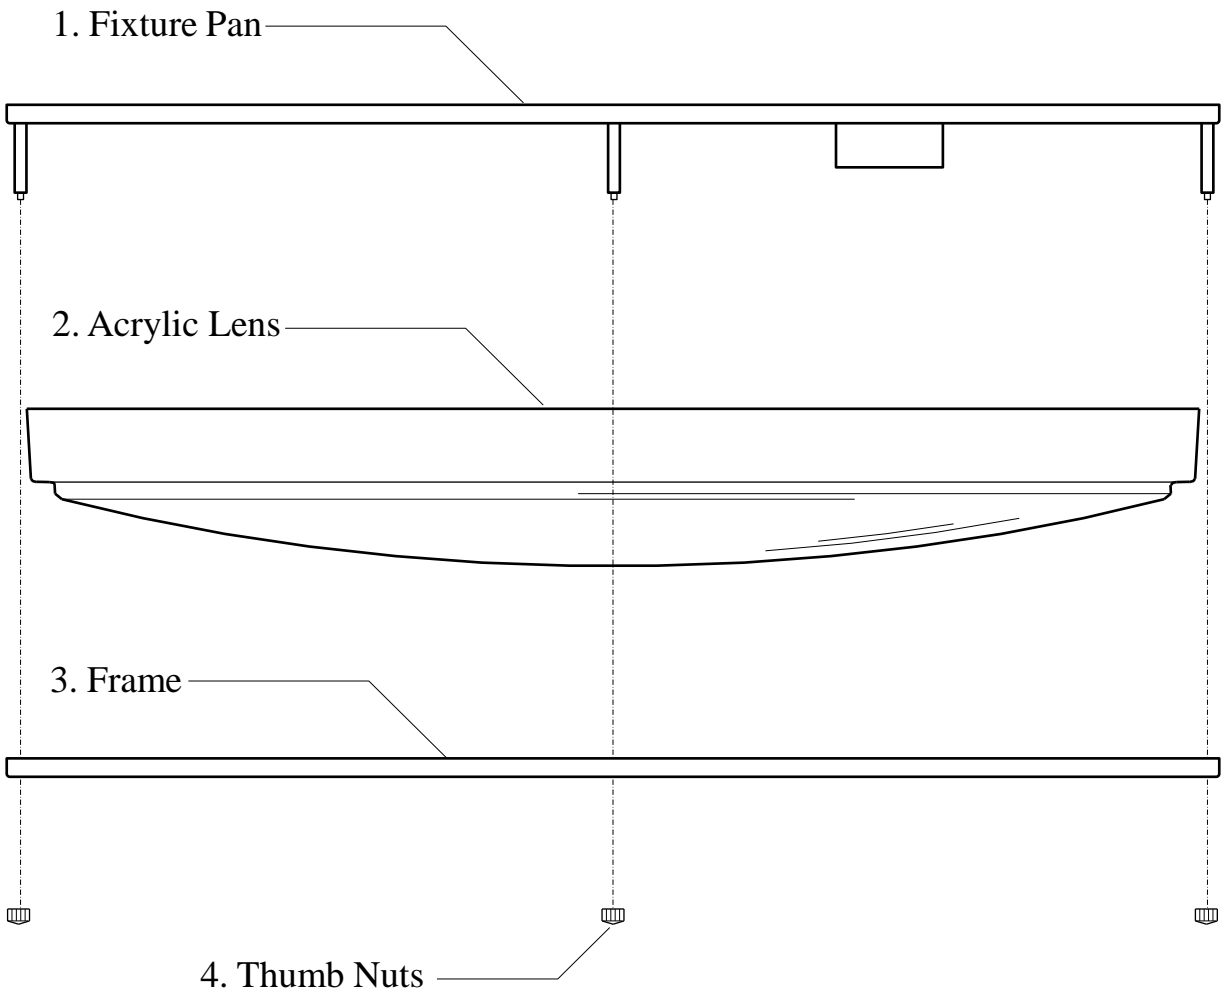

Fig. 4
- 7. Secure the Acrylic Lens (#2) and Frame (#3) to the Fixture Pan (#1) using the Thumb Nuts (#4), as shown. **(Fig. 4)**